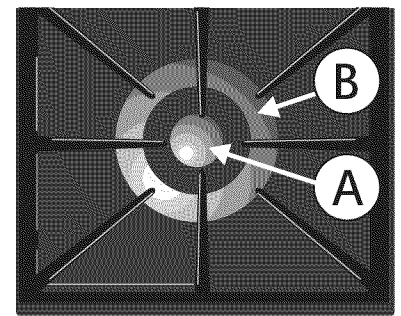

Figure 1
Large Cookware Operation (Figure 1; Zone A & B)
5. When the burner is lit, continue to turn the control knob **counterclockwise** between the HI position and the MED position to adjust to the desired flame size for both burners together (figure 1). **DO NOT** cook with any of the surface control knobs in the LITE position (The electronic ignitor will continue to spark if the knob is left in the LITE position).
Simmering Operation (Figure 1; Zone A)